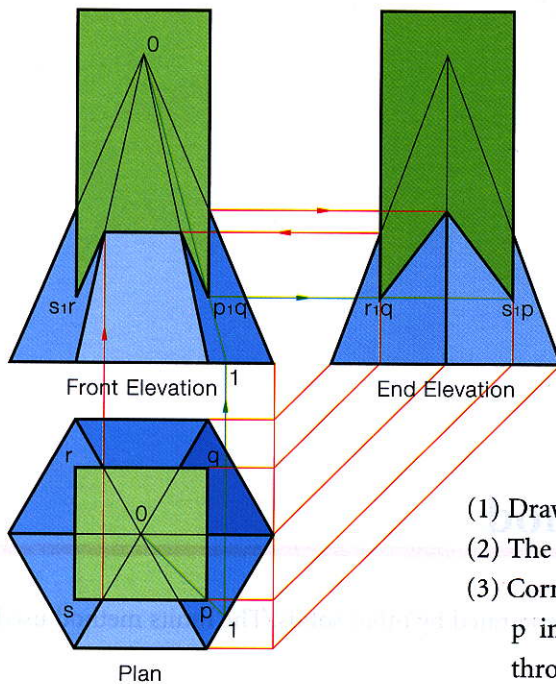

Fig. 10.12
- (1) Draw the given plan and elevation.
- (2) The bend points are easily found.
- (3) Corners p, q, r and s fall on the sloping faces of the pyramid. To find point p in elevation we draw an element from the pyramid apex in plan, through point p to hit the pyramid base at point 1. This element 0, 1 can be found in elevation and p found on it.
- (4) The front elevation and end elevation can now be completed. There is no necessity for any more elements as the answer is symmetrical, Fig. 10.12.